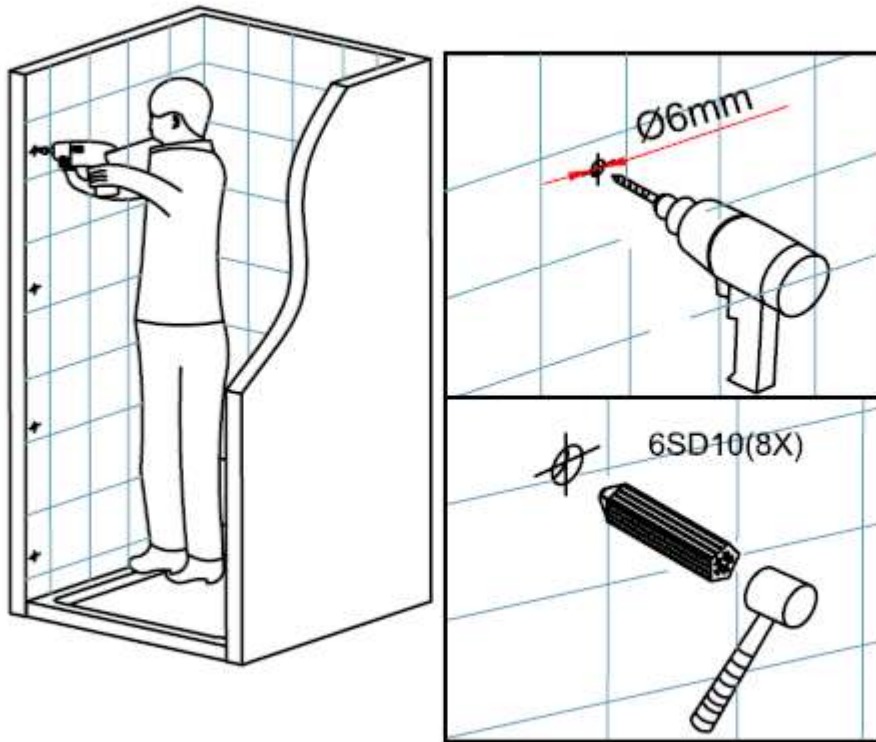

Figure 3
3. Drill the holes( $\varnothing 6\text{mm}$ ) into the wall according to the marks made and insert the wall plugs (6SD10) into the holes, as shown in figure 3